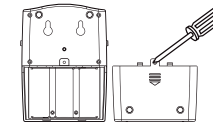

Fig. 4
5. Remove the screw from the back of the receiver cover and open the panel. (Fig.4)